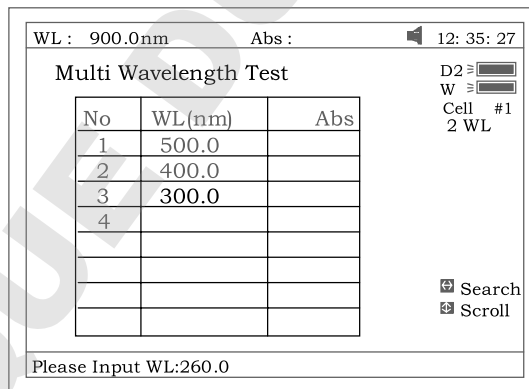

Fig 68
1. Press **【F1】** to setup a group of wavelengths for testing by pressing the numeric keypad followed by **【ENTER】**. (^) or (v) to modify the inputted data (Fig. 68). Press **【ESC】** to finish setup and exit.